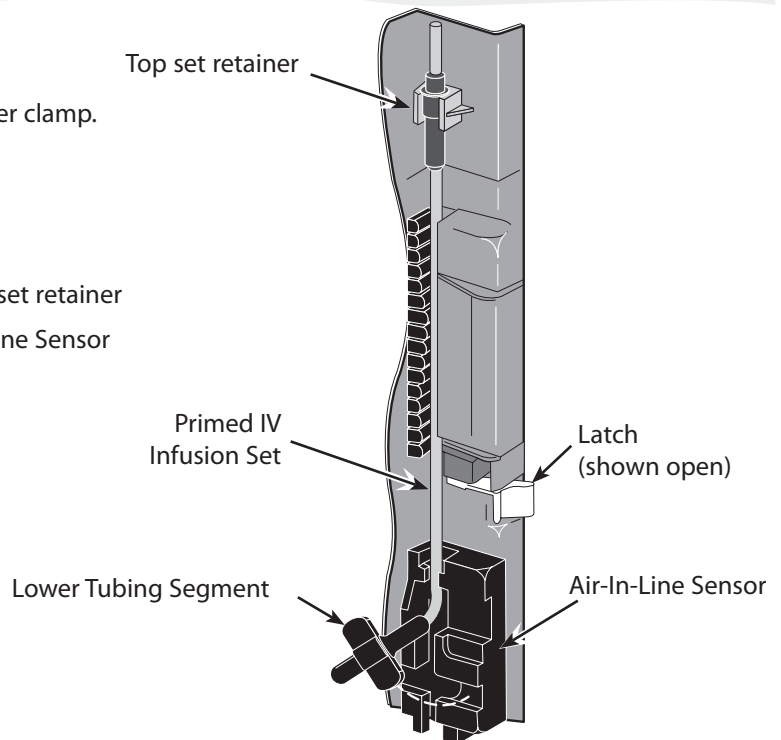

Figure 1. Loading the Set
3. Load the primed IV infusion set (see Figure 1):